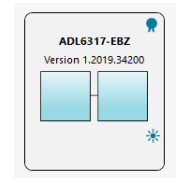

Figure 4. ADL6317-EBZ Board Icon
2. Double-click the **ADL6317-EBZ** board icon, as shown in Figure 4.